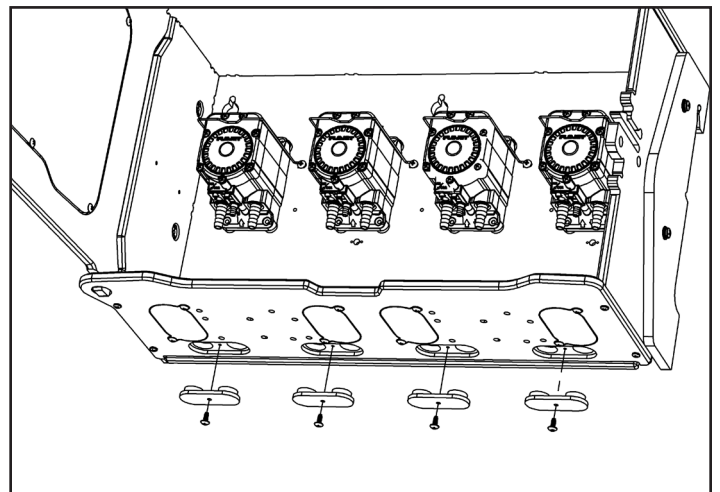

Fig. 5.3: Removing filler plates
4. Remove the filler plates for any hose routing ports to be used [Figure 5.3]